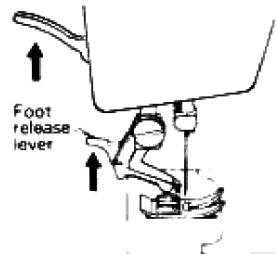

Fig. 1
1. Raise foot release lever to remove the foot. (Fig. 1)